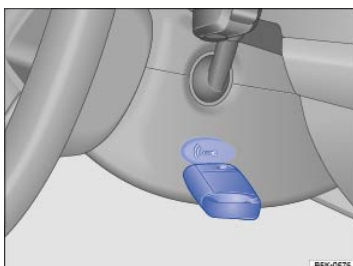

Fig. 101 Hold the remote control vehicle key to the right of the steering column: Emergency starting feature.
- Hold the remote control vehicle key to the right of the steering column trim immediately after pressing the starter button ⇒ *Fig. 101*.